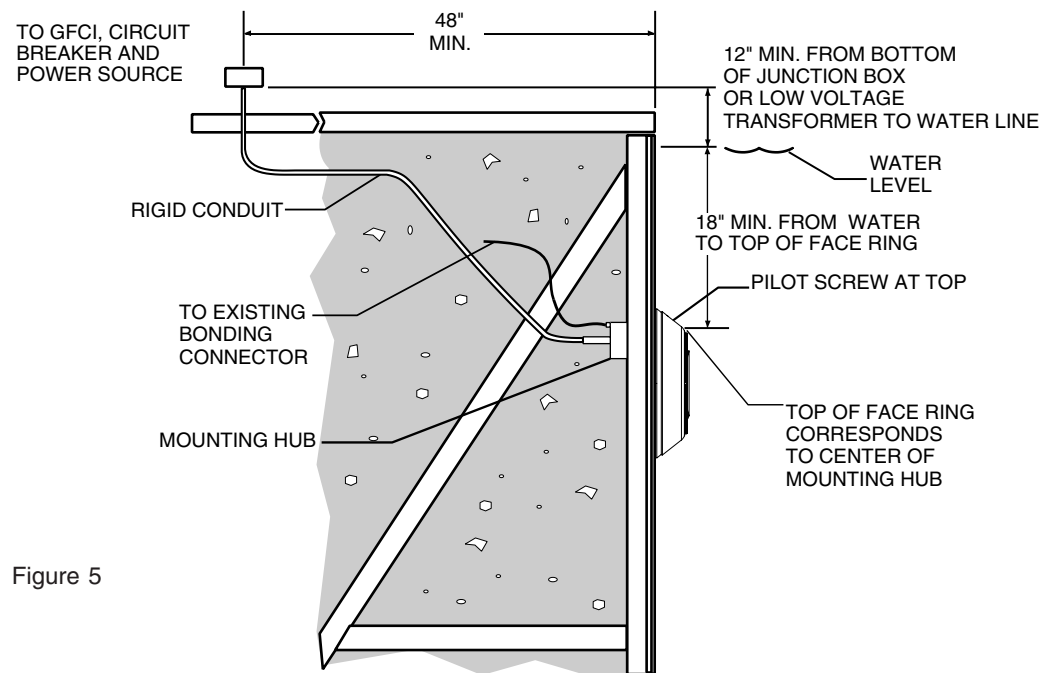

Figure 5
A. The following are preparatory steps which must be completed by the electrician or qualified pool serviceman before replacing light fixture, see Figure 5 on page 8.
- b. The junction box, or the low voltage transformer for 12 volt models, is located at least 12 inches above water level and at least 48 inches from the edge of the pool, see Figure 5.
- c. The light fixture and all metal items within five (5) feet of the pool must be properly electrically bonded.
- d. The mounting bracket must be properly installed so that the top edge of the face ring of the Nicheless Light is at least 18 inches below the surface of the water in the pool, see Figure 5.
- e. The mounting bracket and mounting hub must be properly electrically bonded and grounded via the No. 8 AWG ground connector located at the rear of the Nicheless fixture, see Figure 5.